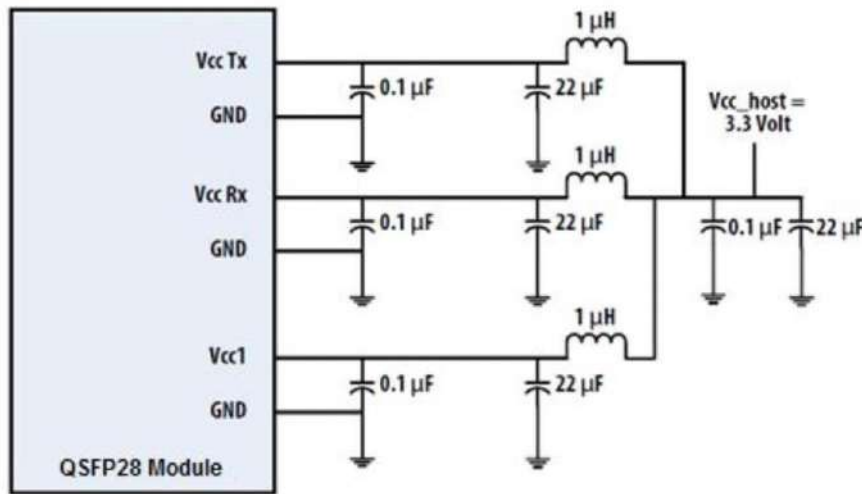

Figure 4. Recommended Power Supply Filter
- VccRx, Vcc1 and VccTx are the receiver and transmitter power suppliers and shall be applied concurrently. Recommended host board power supply filtering is shown in Figure 4 below. Vcc Rx, Vcc1 and Vcc Tx maybe internally connected within the QSFP28 transceiver module in any combination. The connector pins are each rated for a maximum current of 1000mA